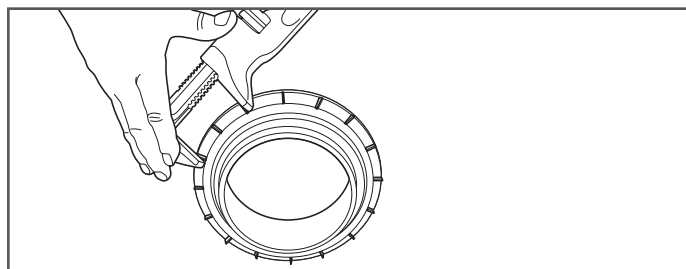

Figure 23-8
6. On the interior of sump thread locking nut onto entry fitting body. Use a pipe wrench to tighten locking nut until snug (Figure 23-8).